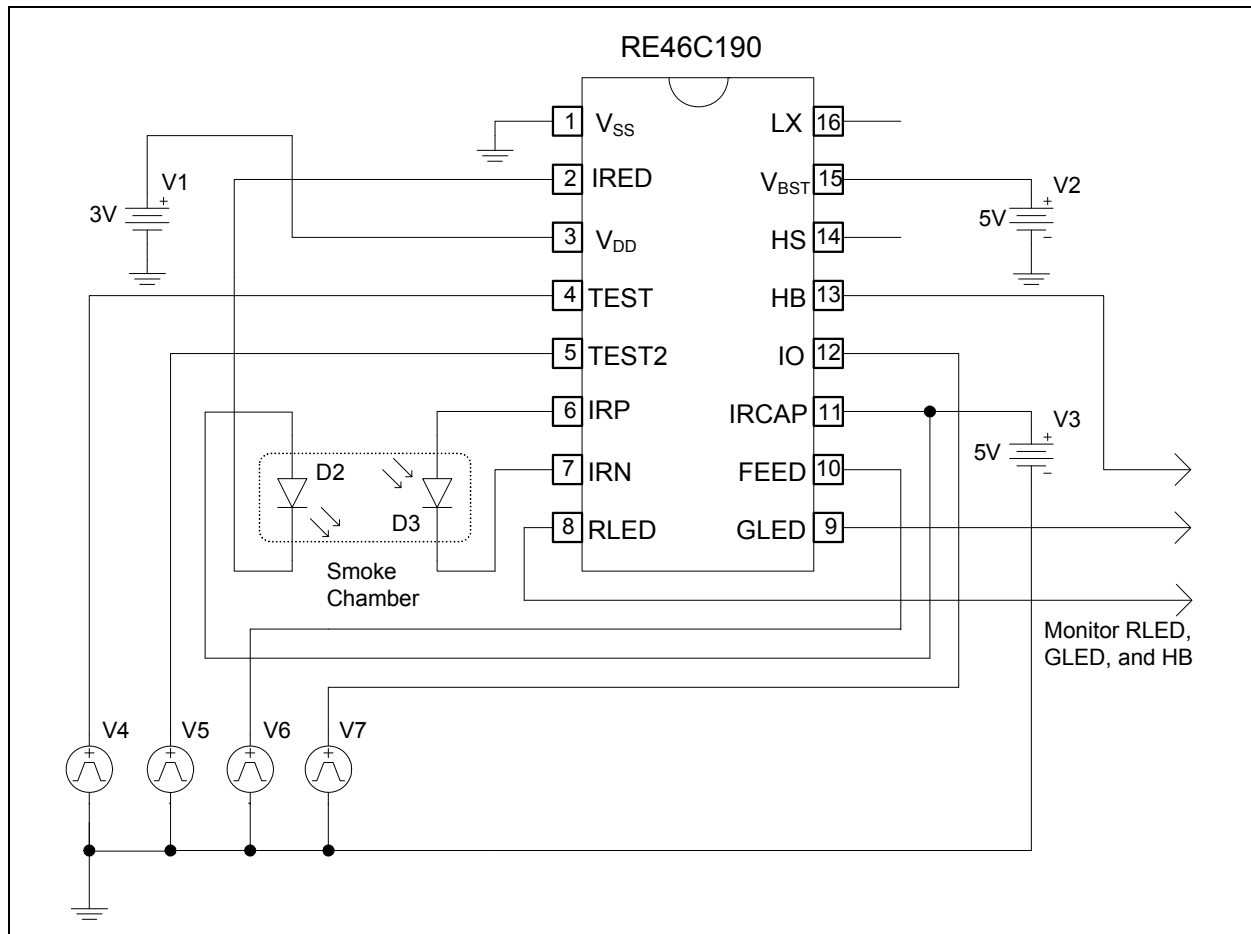
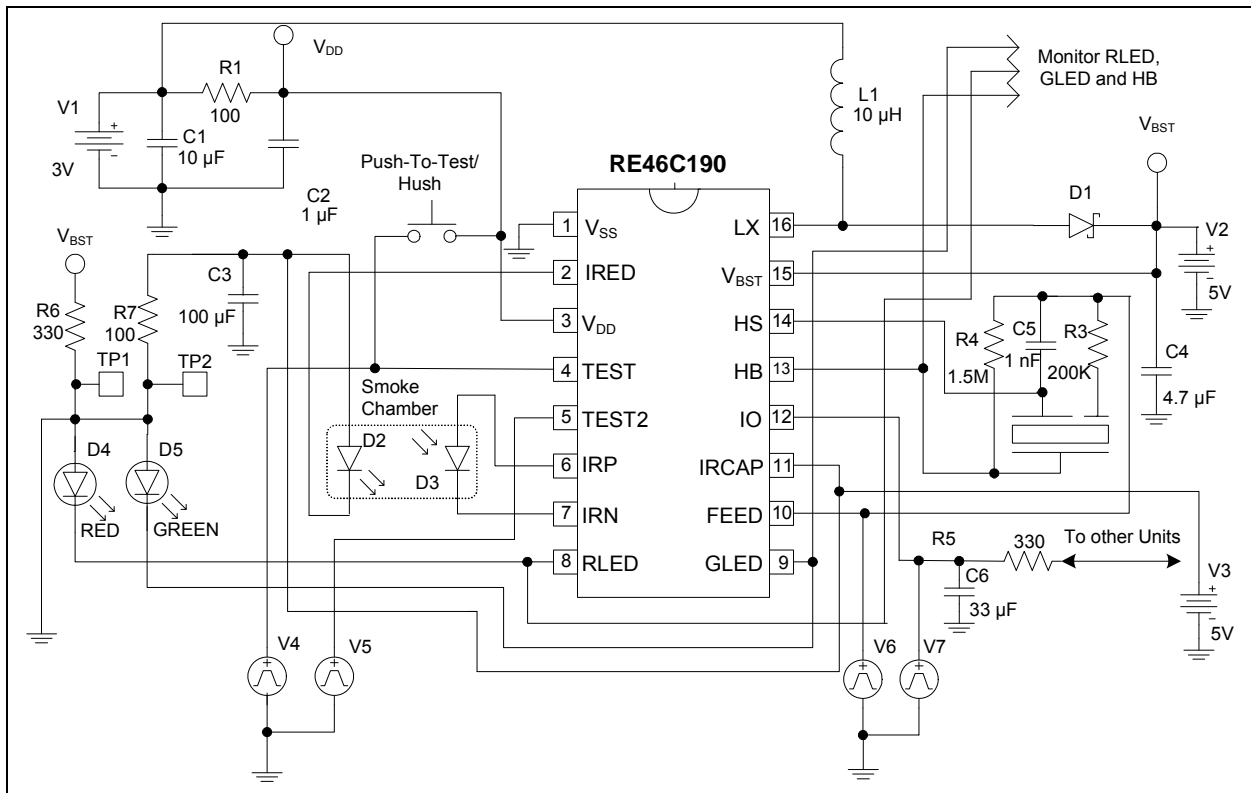

FIGURE 4-1: Nominal Application Circuit for Programming.
FIGURE 4-3: Circuit for Programming in the Typical Application.
1. Power up with bias conditions as shown in Figure 4-1. At power-up
As an alternative to Figure 4-1, Figure 4-3 can be used to program while in the application circuit. Note that in addition to the five programming supplies, connections to V_{SS} are needed at TP1 and TP2.
1. Power up with the bias conditions shown in Figure 4-1.
- 1. Set up the application as shown in Figure 4-1.